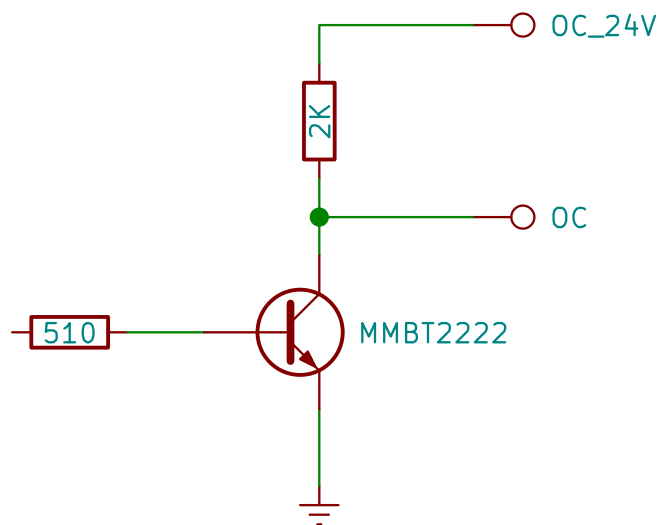
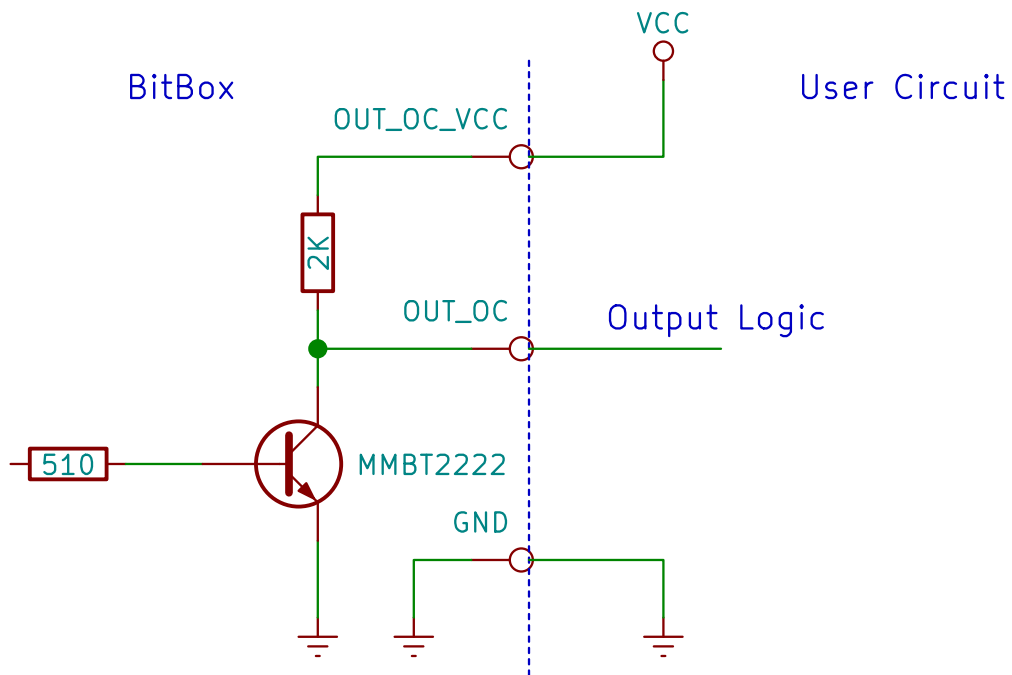
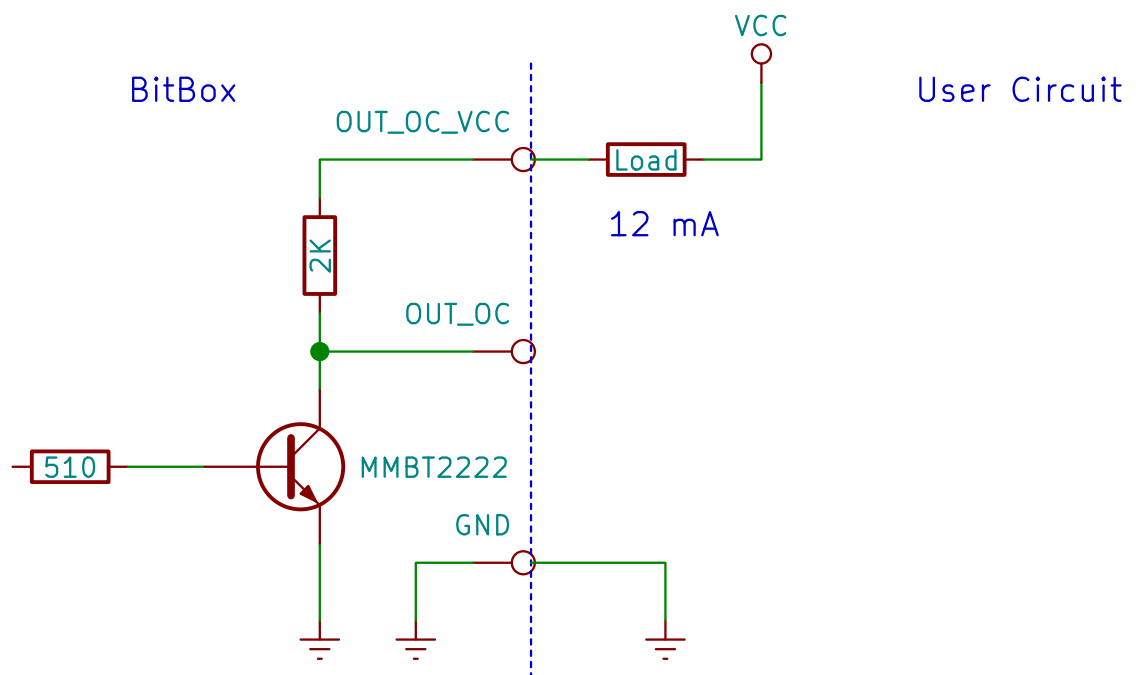
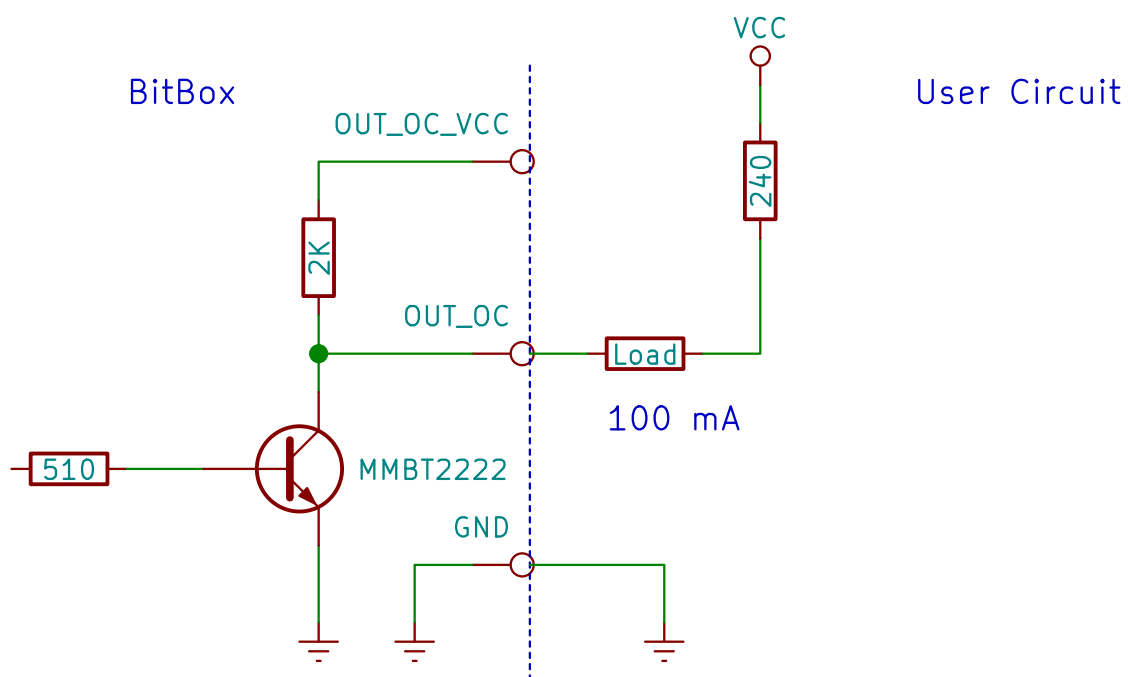

Figure 2-16 Implementation of the Open Collector Output
Figure 2-17 Simple 24 V Output Logic
Figure 2-18 Circuit for sinking current, 12mA
Figure 2-19 Circuit for sinking current, 100 mA
The Open Collector (OC) output has been implemented with a MMBT2222 transistor, see Figure 2-16. The user has access to the collector of the transistor, OC, and to a 2K pullup resistor, OC_24V. Figure 2-17 shows a simple circuit that supplies a logic output level of up to 24V. The user connects to the OC_24V output the voltage that he wants the output logic to have in the HI state. For a HI of 24V, connect to a 24V power supply. The maximum voltage is 26V. The minimum voltage is 3V. The user's and the BitBox GNDs must be connected. Figure 2-18 shows a simple circuit that is intended to sink current (as opposed to supplying logic levels). The circuit in Figure 2-18 can sink up to 12 mA. The BitBox's on-board 2K pullup resistor limits the current to 12mA for a 24V power supply. The user's and the BitBox GNDs must be connected. Figure 2-19 shows how to connect a circuit that needs to sink 100mA from 24V. The user needs to supply his own limiting resistor, which should be 240 Ohm for 100mA from 24V. The user's and the BitBox GNDs must be connected.